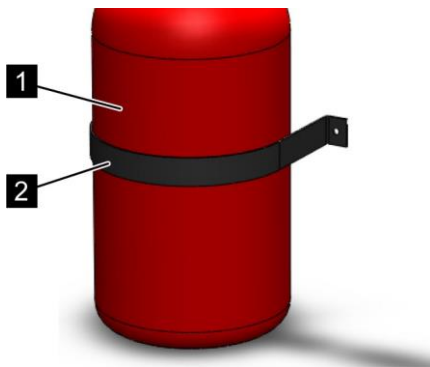

Fig. 142: Remove the clamp
8. ➔ Remove the clamp (Fig. 142/2) and carefully place the extinguishing agent container (Fig. 142/1) to the side.